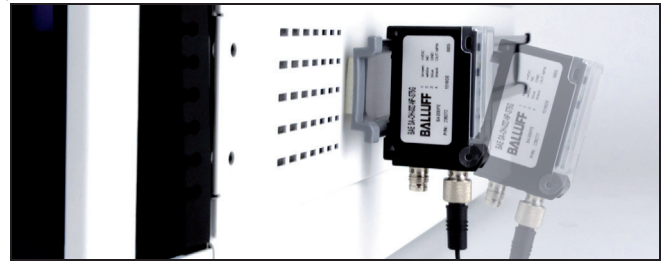

Fig. 8 Position of the Air Sensors
3. Push the Air Sensor sloping against the lower border of the carrier rail (Fig.8).